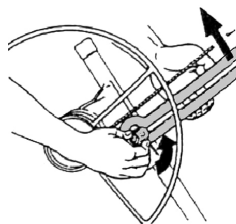

Fig. 11
6. Lift the slide bar with your left hand as you unlock the slide bar lock by rotating it counterclockwise with your right hand (Fig. 11).